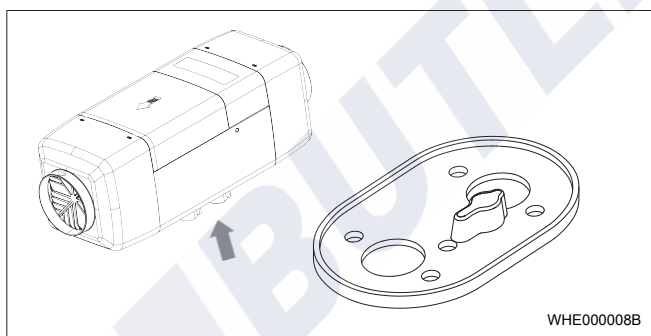

Fig. 4 Base seal for heater
- ✓ Drill holes with the aid of the drilling template. See Fig. 4 and Fig. 29.